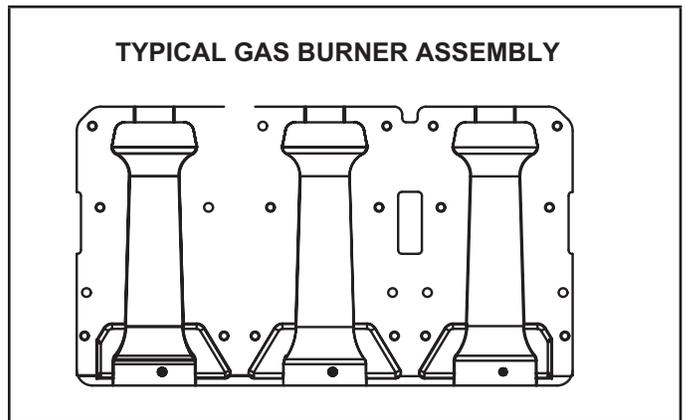
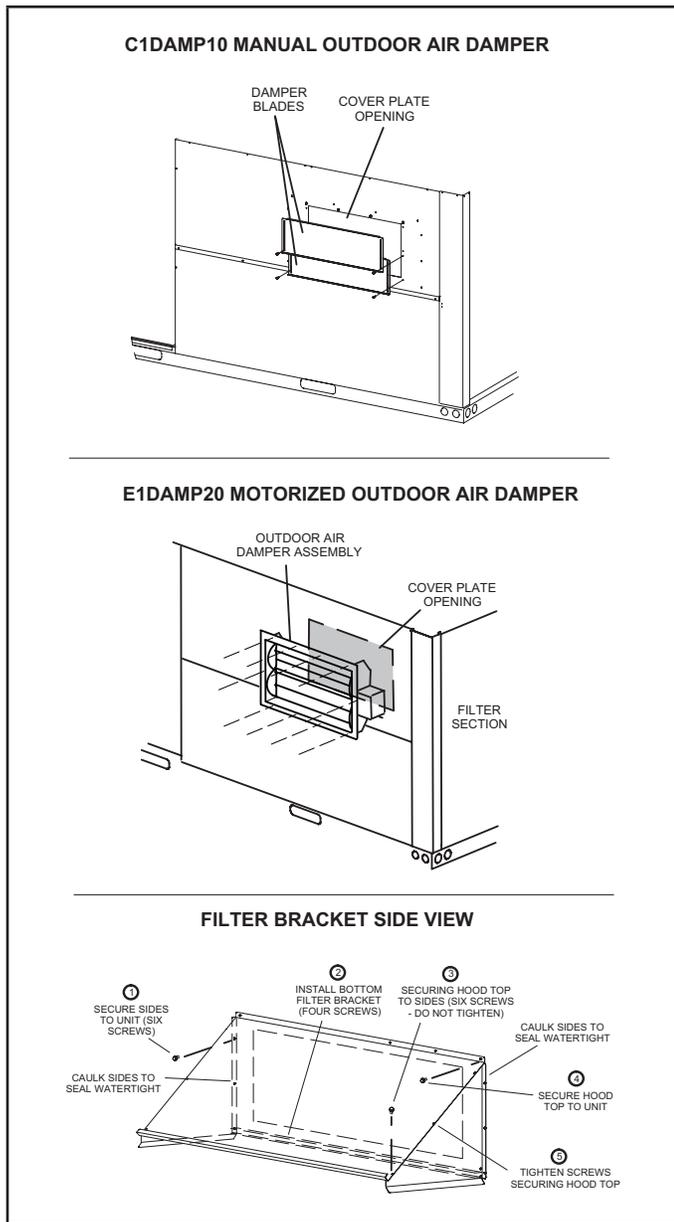

FIGURE 32
FIGURE 35
- 3 - Burner assembly is a cluster assembly (FIGURE 32) and can be removed as one.
C1DAMP10C and E1DAMP20C (figure 32) consist of a set of dampers which may be manually or motor operated to allow up to 25 percent outside air into the system at all times. See FIGURE 35. Either air damper can be installed in LDT units. Washable filter supplied with the outdoor air dampers can be cleaned with water and a mild detergent. It should be sprayed with Filter Handicoater when dry prior to reinstallation. Filter Handicoater is R.P. Products coating no. 418 and is available as Part No. P-8-5069.